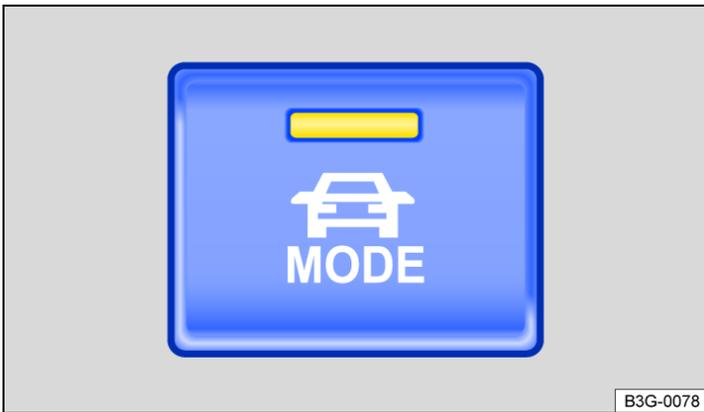

Fig. 1 In the centre console: MODE button of the driving profile selection.
Vehicles with front-wheel drive have the MODE button for driving profile selection → *Fig. 1*.
1.  → Fig. 1.